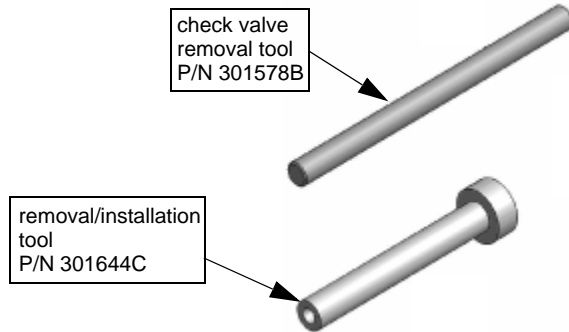
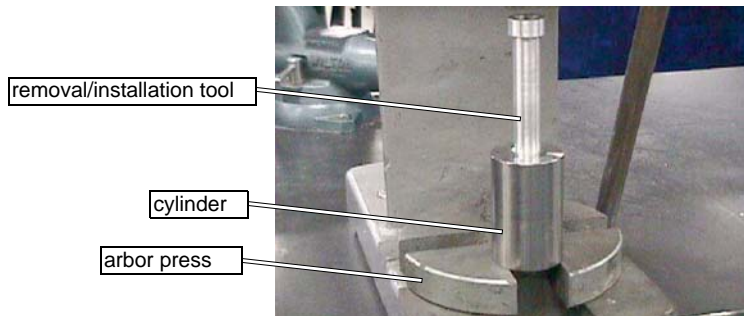

Figure 5-6: OMAX Special Disassembly Tools
Figure 5-11: Removing the Sealing Assembly using an Arbor Press
4. Using the Removal/installation Tool (Figure 5-6), push the Sealing Assembly (Displacer, Retainer and Seal Assembly, Short Seal Ring, and Backup-support Ring Assembly - Figure 3-10) out of the Cylinder from the Check Valve Assembly end toward the Coolant Housing Assembly end using an Arbor press (Figure 5-11). Repeat for the remaining two cylinders.